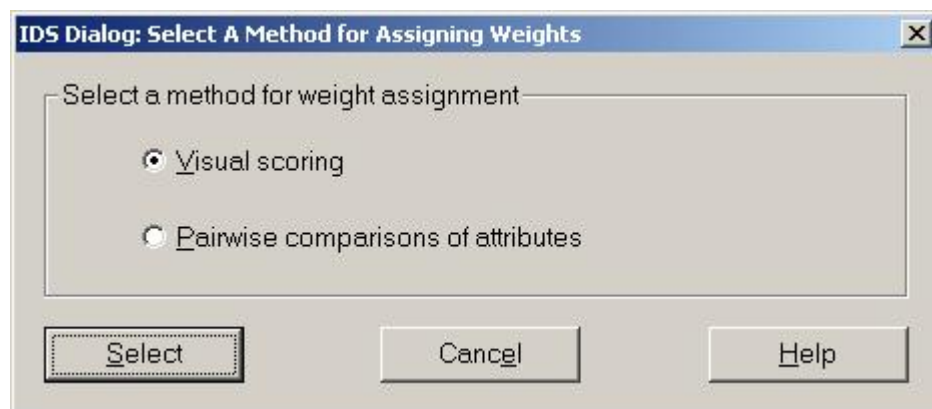
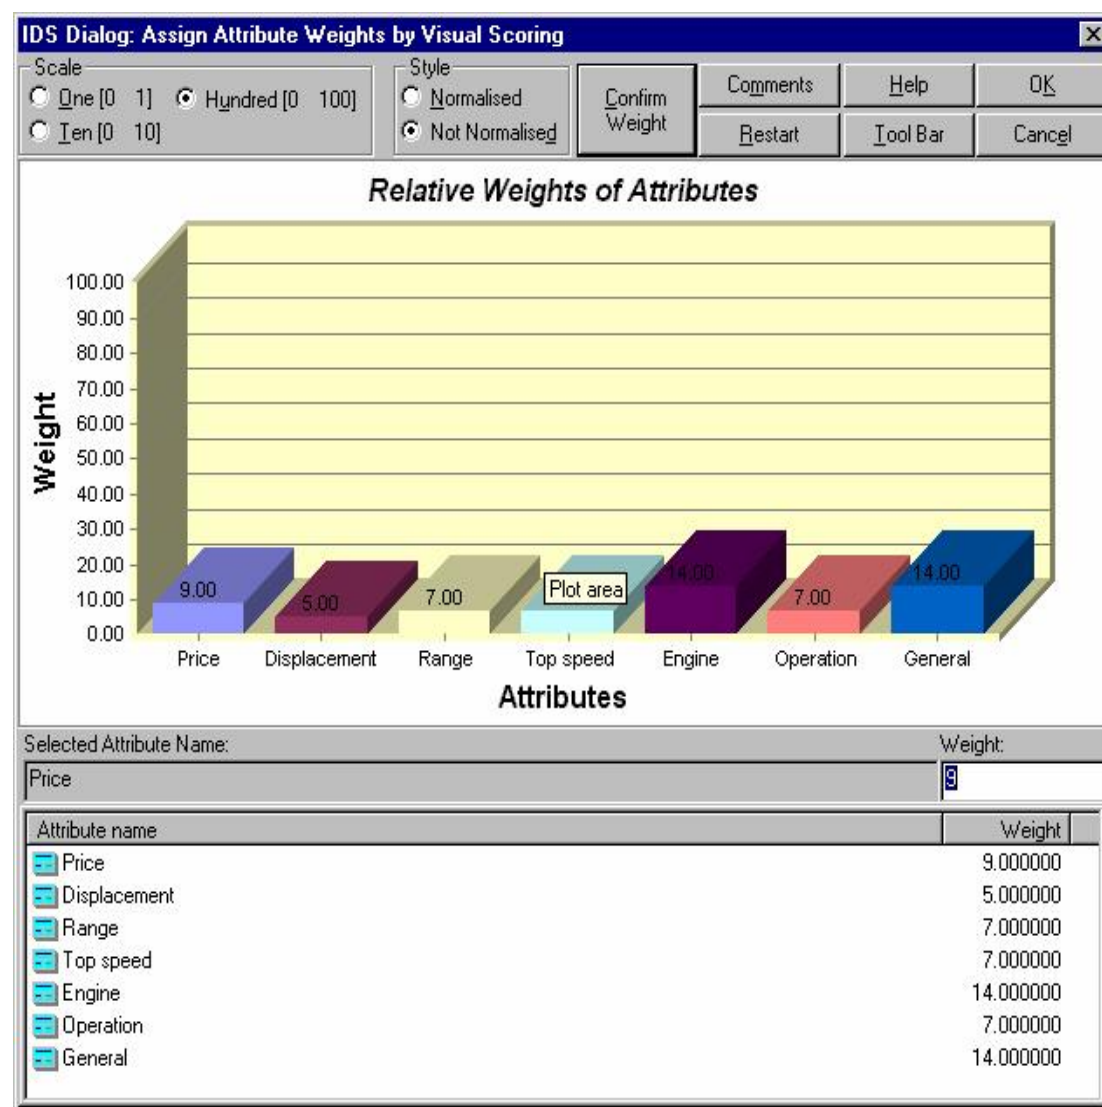

Figure 3.1 Select A Method for Assigning Weight
Figure 3.2 Assigning Attribute Weights by Visual Scoring
- (2) Click the shortcut icon  (the w here stands for Weight) from the toolbar of the IDS main window, and then the *Visual Scoring* radio button and the *Select* button on the *IDS Dialog: Select A Method for Assigning Weights* (**Figure 3.1**). Alternatively, from *Modelling* menu of the IDS main window select *Estimate Weight* and then select *Visual Scoring*. This will invoke the dialog window shown in **Figure 3.2**.
- (3) In the dialog window shown in **Figure 3.2**, the weight of each attribute in the group is displayed graphically. The relative importance of each attribute is represented by the height of its column. To change the weight of an attribute, you can use a computer mouse to drag the top edge of its column up and down until it reaches the desired height. During the dragging process, the weights are displayed at the top of each column dynamically.
At the bottom of the window (**Figure 3.2**), there is also a list view to list all attributes in a group and their weights. By clicking on any of the attribute name in the list, you can type in a weight value from the edit box just above the list. This is
- (4) When you are happy with weights assigned to all attributes in a group, you can click on the *Confirm Weights* button to accept the assigned weights. If you are not happy with all the changes you have made since last time you have pressed the *Confirm Weights* button or from when the window shown in Figure 3.2 was invoked, then you can press the *Restart* button to start from the previous weight setting again until you are happy with the new setting.
Dialog: Select A Method for Assigning Weights (Figure 3.1). Alternatively, from the Modelling menu of the IDS main window select Estimate Weight and then Pairwise Comparison. This will activate the dialog window similar to Figure 3.3.